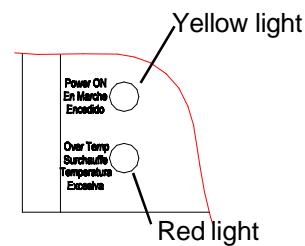

Fig.5
2. Heater is equipped with a thermostat. To adjust temperature to your individual requirements, turn thermostat control knob clockwise all the way to turn heater on, the yellow power light will illuminate (fig. 5). When room reaches desired temperature, turn thermostat knob counterclockwise until you hear click. Leave in this position to maintain room temperature at this setting. For additional heat, turn clockwise until you hear click again and heater will turn on. To shut heater off turn thermostat knob counterclockwise all the way. The yellow power indicator light will turn off.